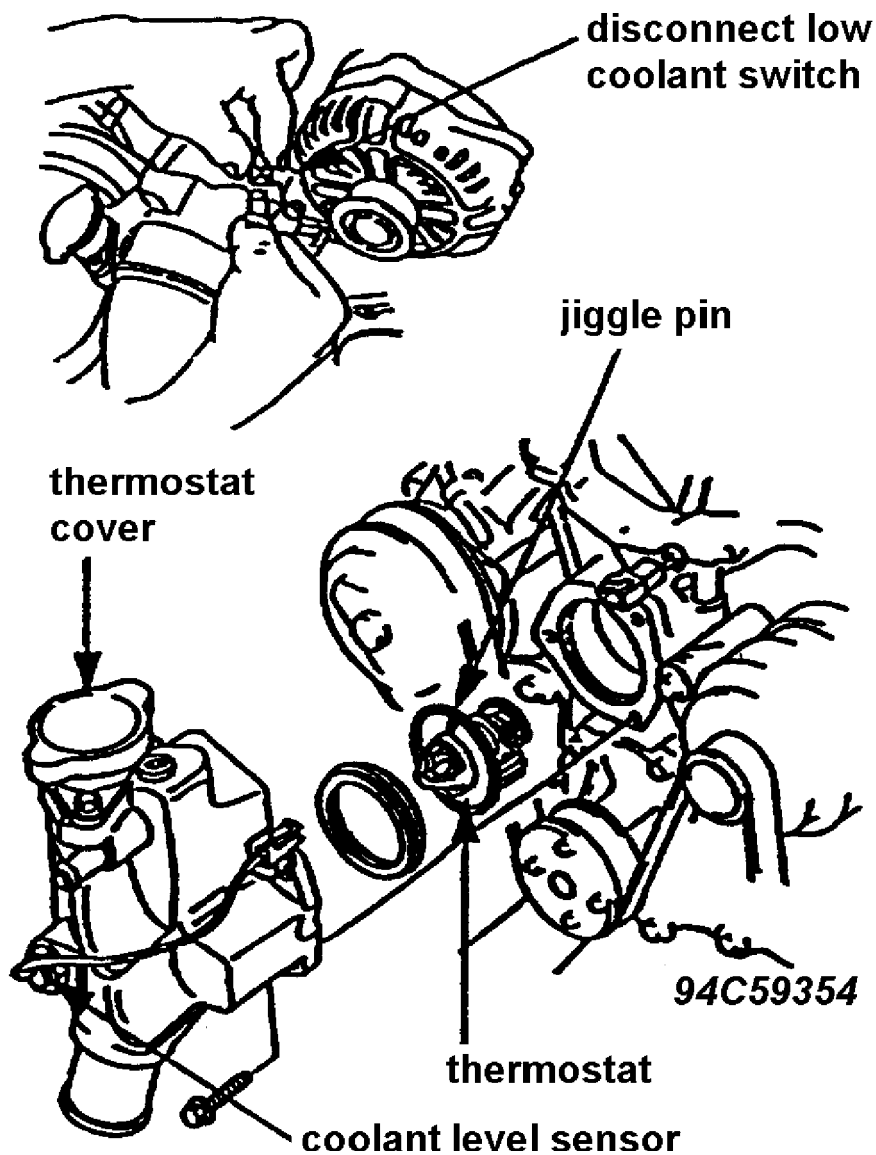

Fig. 71: Jiggle Pin Identification
46. Disconnect the low coolant switch connector. See Fig. 71.